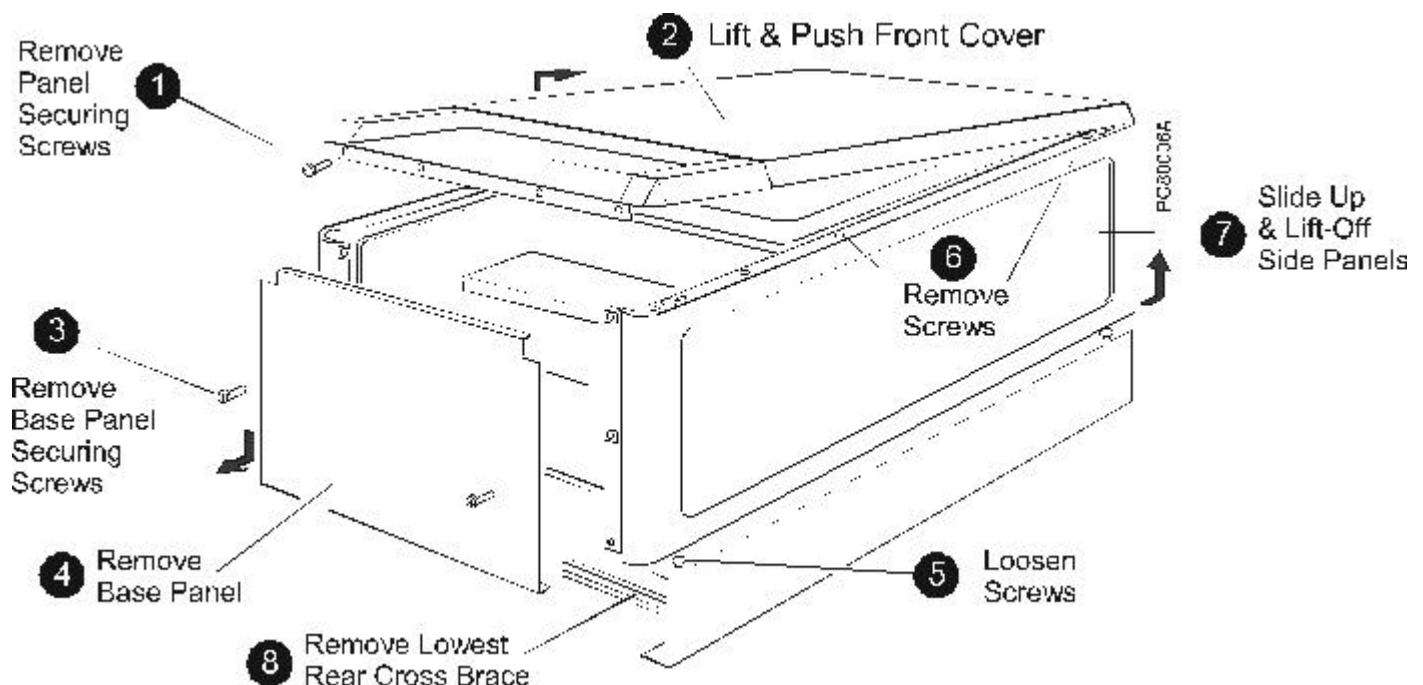

Fig 8
- Remove the white front case as follows; undo the two securing screws at the base of the panel, pull the base of the panel forward approx. 50 mm and lift off the supporting top hooks. (Fig. 8)